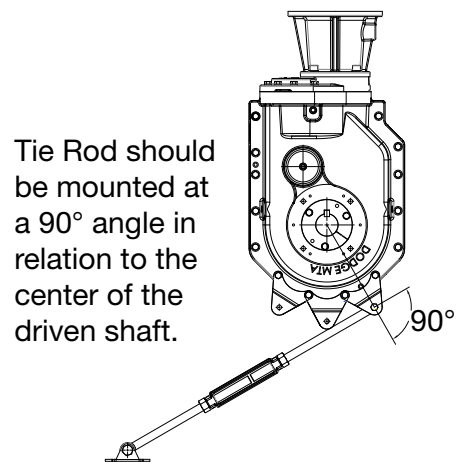

Figure 6 - Tie Rod Mount
5. Install torque arm fulcrum on a flat and rigid support so that the torque arm will be approximately at right angles to the centerline through the driven shaft and the torque arm anchor screw, as shown in Figure 6.